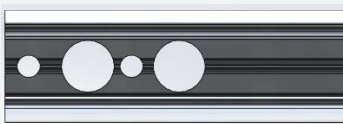

Figure 1: Wire routing and finishing tip holes
- Channel – Remove the light extrusion from the channel if already assembled. If the channel selected has adhesive, determine the required mounting position of the light and peel away the adhesive backer. Apply the channel to the mount location and apply pressure evenly throughout the adhered surface for at least 30 seconds. This is intended to be a temporary adhesion. Apply fasteners into the pre-drilled holes inside of the channel for permanent fixturing. The holes located nearest each end of the channel are meant for wire routing and finishing tips see Figure 1. Do not apply fasteners to these holes. Drill a hole through the mounting surface in the proper location for wire routing if necessary. Make sure that if there are finishing tips and the wires are routed straight out of the end of the extrusion, the wire routing hole will not interfere with the screw mounting of the finishing tip. Press or slide the light extrusion into the channel, Apply finishing tips to channel (if applicable) routing wires through if necessary.